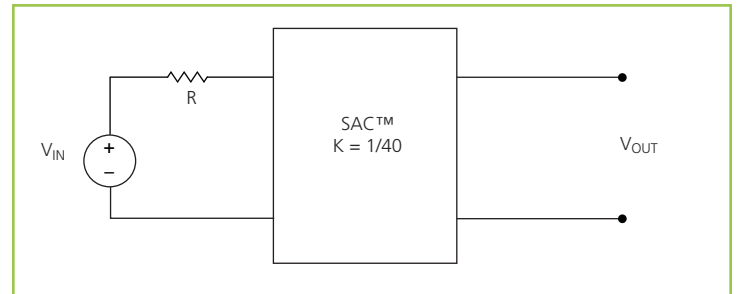

Figure 18 –  $K = 1/40$  Sine Amplitude Converter with series input resistor
The use of DC voltage transformation provides additional interesting attributes. Assuming that  $R_{OUT} = 0 \Omega$  and  $I_Q = 0 A$ , Eq. (3) now becomes Eq. (1) and is essentially load independent, resistor R is now placed in series with  $V_{IN}$  as shown in Figure 18.
Assuming that  $R = 1 \Omega$ , the effective R as seen from the secondary side is  $0.63 \text{ m}\Omega$ , with  $K = 1/40$  as shown in Figure 18.